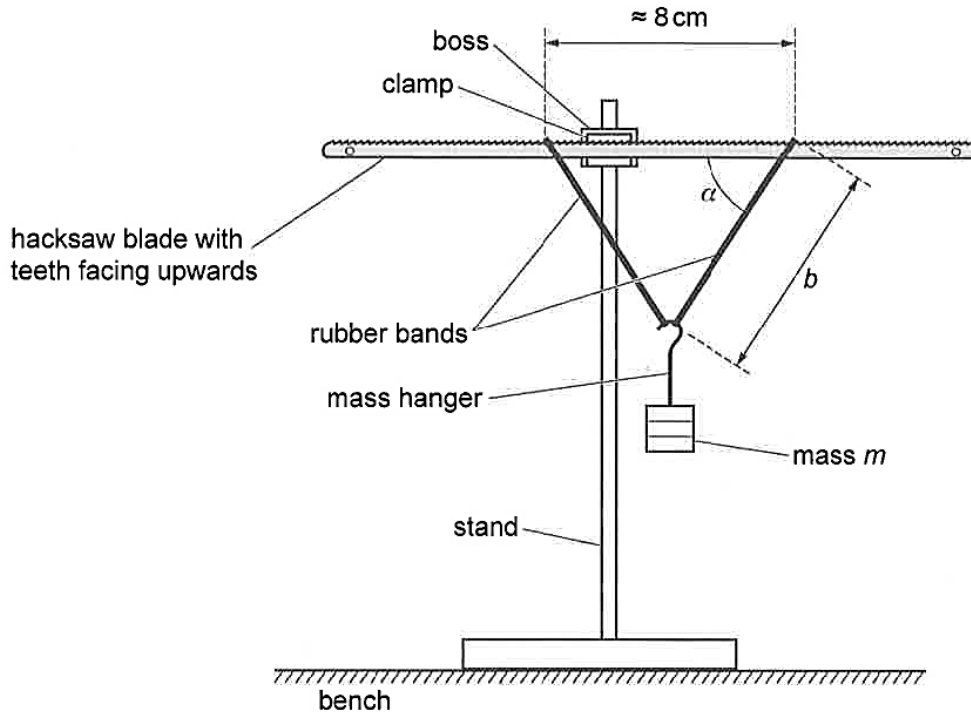

Fig. 2.1
- (a) Set up the apparatus as shown in Fig. 2.1.
The angle between **one** of the rubber bands and the hacksaw blade is α , as shown in Fig. 2.1. The length of **one** of the stretched rubber bands is b .